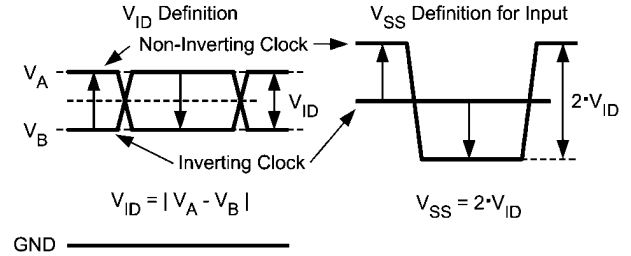

FIGURE 19. Two Different Definitions for Differential Input Signals
Figure 19 and Figure 20 illustrate the two different definitions side-by-side for inputs and outputs respectively. The  $V_{ID}$  and  $V_{OD}$  definitions show  $V_A$  and  $V_B$  DC levels that the non-inverting and inverting signals toggle between with respect to ground.  $V_{SS}$  input and output definitions show that if the inverting signal is considered the reference, the non-inverting signal voltage potential is now increasing and decreasing above and below the non-inverting reference. Thus the peak-to-peak voltage of the differential signal can be measured. Hence  $V_{ID}$  and  $V_{OD}$  are often defined as volts (V) and  $V_{SS}$  is often defined as volts peak-to-peak ( $V_{pp}$ ).